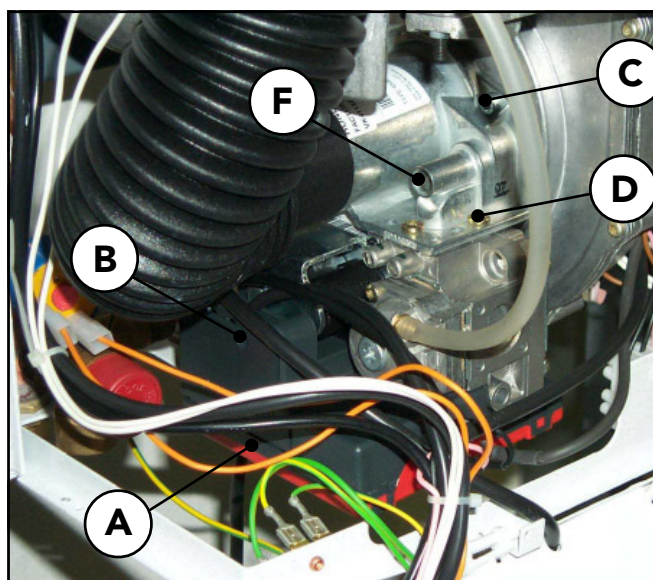

Fig. 19
If the appliance has to be used with a gas other than the one it has been set for, it is necessary to insert (or remove) the restrictor between the gas valve and the air inlet Venturi, and operate on the regulation screw F (fig. 19) placed on the Venturi unit to regulate the CO2 content in the flue gas to the nominal value (within +/- 0.1%) described in the following table:
- 15 If necessary, slowly operate on the regulation screw F (fig. 19) placed on the Venturi to bring the CO2 content to the nominal value (within +/- 0.1%) expected in the table for the correspondent gas type. It is recommended to operate only on the screw F and not on the gas valve: this operation could compromise the correct functioning of the appliance